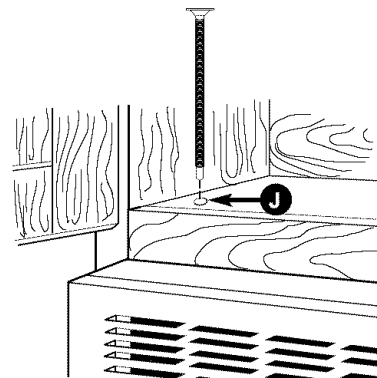

Figure 31
3. Then insert a bolt down through each hole in the upper cabinet bottom. See **Figure 31**. Tighten the bolts until the gap between the upper cabinet and microwave oven is closed.